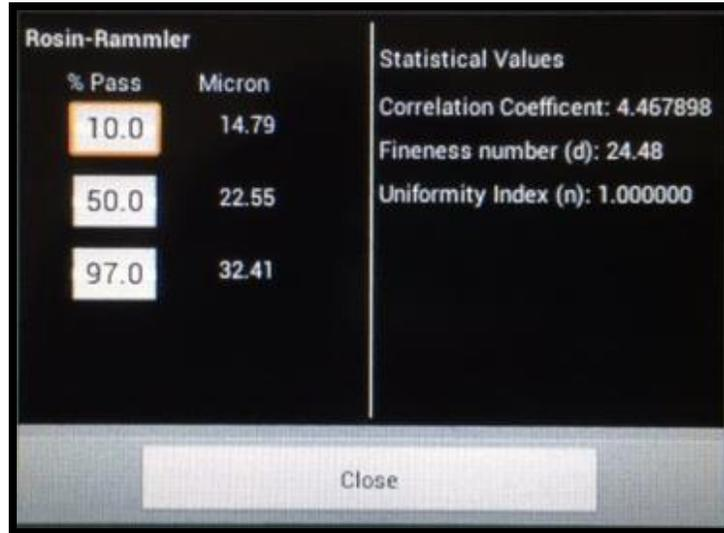

Figure 35
- b. Rosin-Rammler type consists of two (2) buttons, “% Settings” and “Print”.
- i. When the “% Setting” button is pressed, a window containing the Rosin- Rammler “% Pass” calculation points input fields open. (See Figure 35) By pressing any of these cells, a keyboard opens, permitting the operator to either keep the default values (10.0%, 50.0%, and 97.0%) or change the values as desired. Additionally the statistical values used to calculate the microns at each % are shown. Press close to close this window.
1. NOTE: the Rosin-Rammler values to be calculated, two (2) or more Test Sieve Screens must be used during the analysis. The more Test Sieve Screens used during the analysis the more accurate the values.